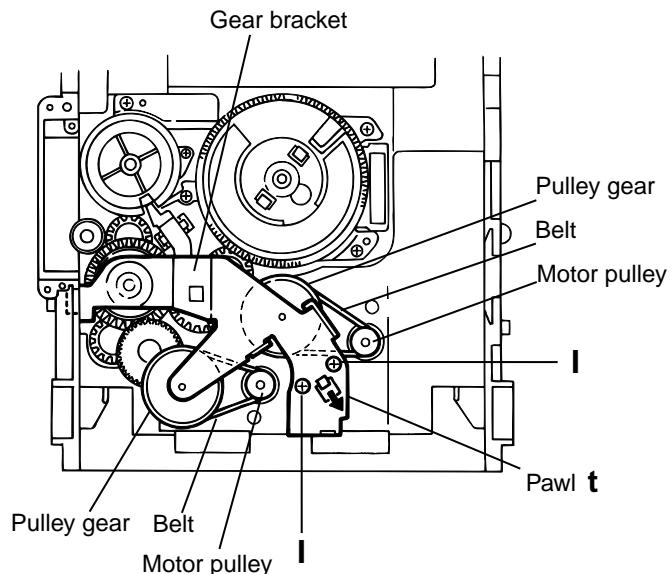

Fig.18
4. While turning the cam gear "q", align the Paul "s" position of the select lever to the notch position(Fig.18) on the cam gear "q".
5. Remove the four screws H retaining the cam unit(cam gear "q" and cams R1/R2 assembly)(See Fig.18).
■ Removing the actuator motor and belt (See Fig.18~21)
(See Fig.18).
4. Remove the belts respectively from the right and left actuator motor pulleys and pulley gears(See Fig. 18).